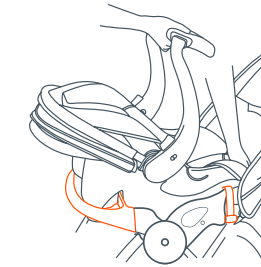

Fig. 17b
- Position the infant car seat so that it faces toward the rear of the stroller and the base hooks lock into the front tray and latches into place (Fig. 17b).